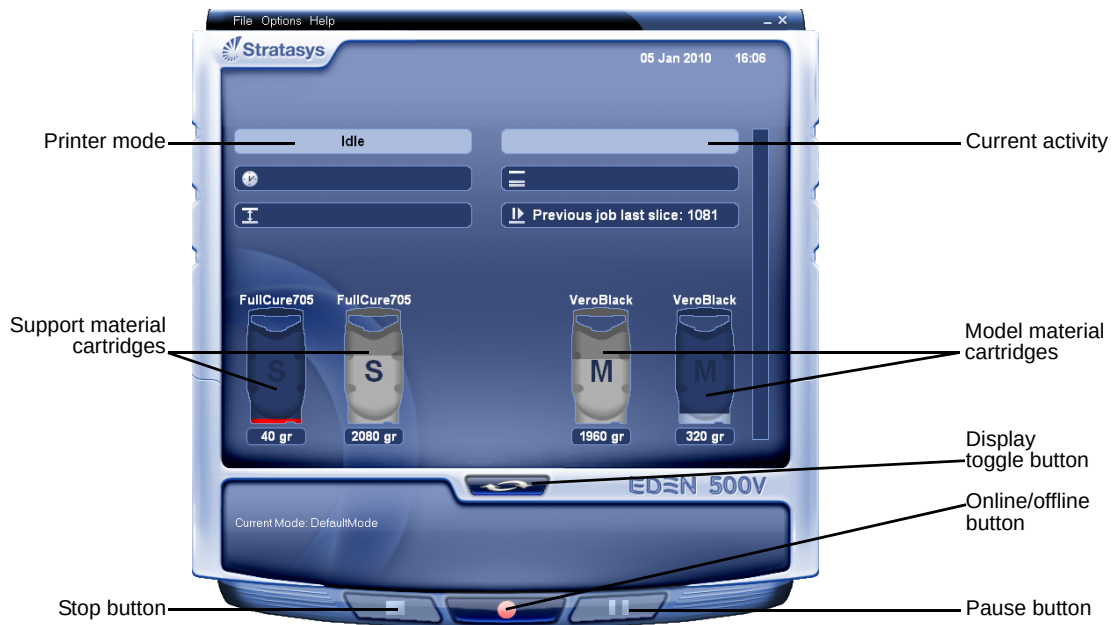

Figure 6-3: Eden500V interface
The Eden printer interface screen opens (see figure 6-3). All monitoring and controlling of the printer is done from this interface.
Eden500V printers use two cartridges of Model material and two cartridges of Support material, each weighing 3.6 kilograms when full. A graphical representation of the cartridges loaded and their current weight appears in the printer interface (see figure 6-3).
4. Check the printer interface to make sure that the new cartridge is detected and that its weight is displayed (see figure 6-3).
2. Make sure that there is sufficient Model and Support material loaded, as indicated in the printer interface (see figure 6-3). You may want to replace the cartridges of Model and Support material currently loaded in the printer to avoid the need for replacing them during printing.
1. If the printer is in offline mode, switch it to online mode by clicking the red button at the bottom of the printer interface (see figure 6-3 on page 3).